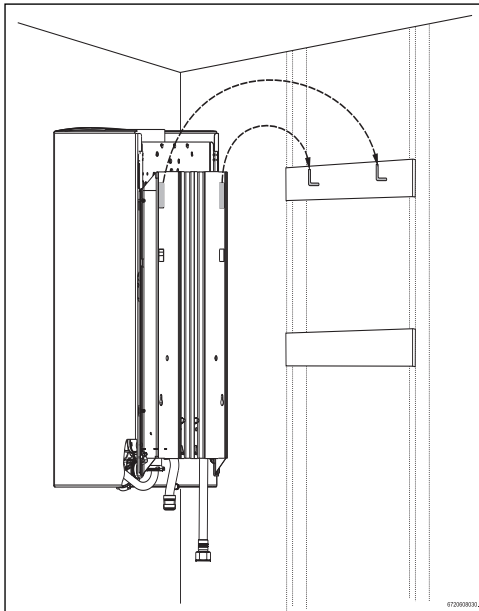

Fig. 8 Secure heater to wall
- ▶ Hang heater on two L shaped hooks. (See Fig. 8).